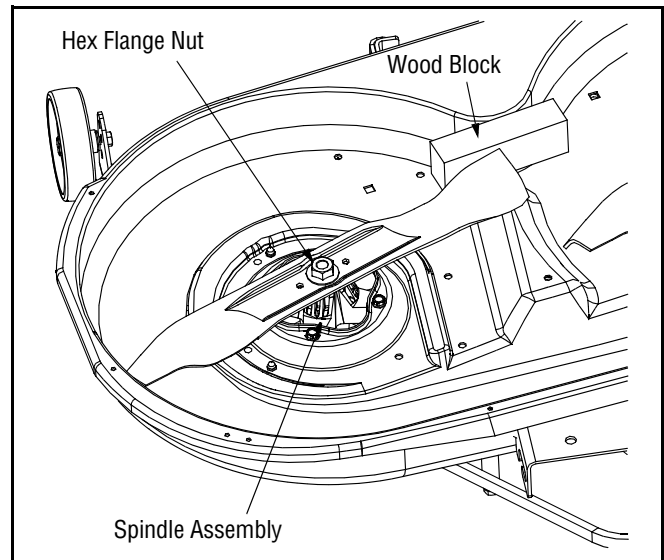

Figure 17
- Place a block of wood between the center deck housing baffle and the cutting blade to act as a stabilizer. See Figure 17.
- Use a 1-1/8" wrench to remove the hex flange nut that secures the blade to the spindle assembly. See Figure 17.